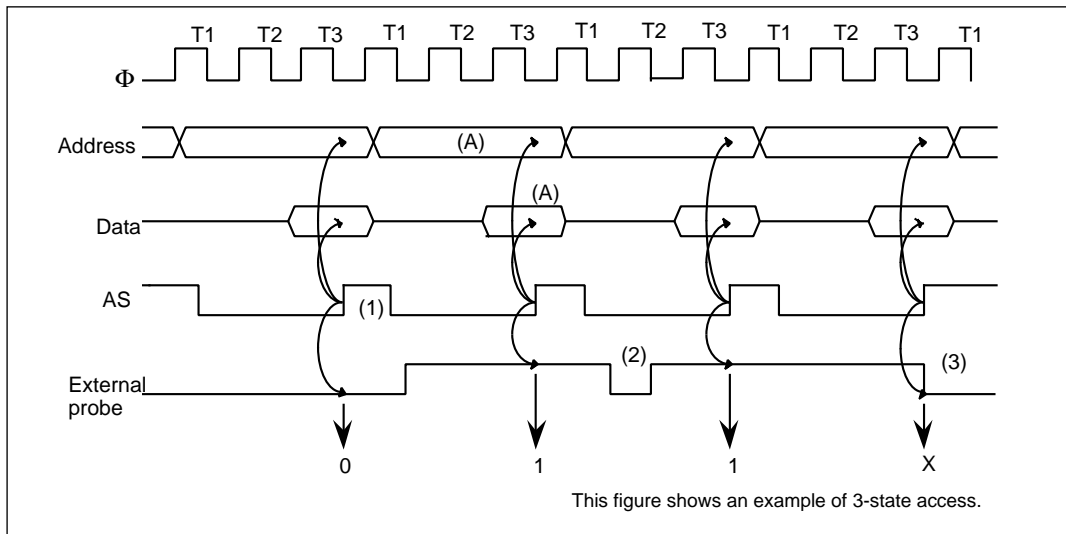

Figure 1-19 External Probe Signal Trace
In each bus cycle, the clock number is the number of clock (AS) cycles from the end of the previous bus cycle to the end of the current bus cycle. Figure 1-19 shows an example of the external probe signal trace.
- Trace information sampled at rising edges of AS (figure 1-19 (1)).
- When the external probe signal changes between samplings, it cannot be reflected in the trace data (figure 1-19 (2)).
- When a sampling edge coincides with a change in the external probe signal, the trace contents are unfixed (figure 1-19 (3)).
- Three clock cycles are traced in bus cycle (A).